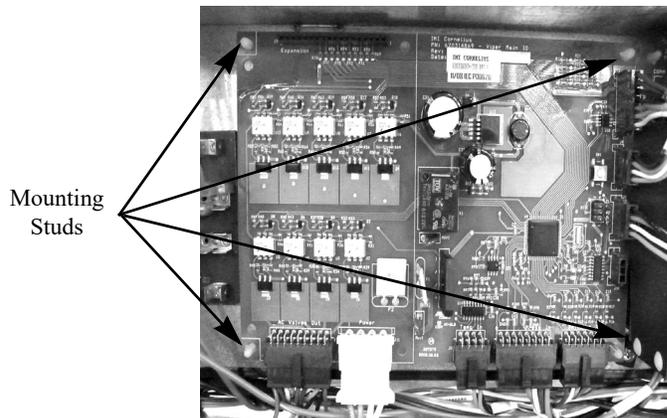

Figure 82. View of Control Board in E-Box
The control board is located in the E-Box. It is mounted to the panel on four (4) plastic mounting studs, shown in Figure 82.